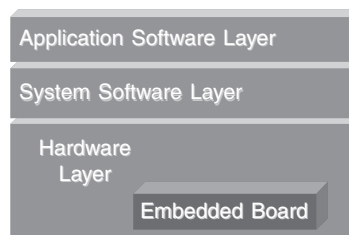

Figure 1.3: Embedded board and the Embedded Systems Model.
In embedded devices, all the electronics hardware resides on a board, also referred to as a *printed wiring board (PW)* or *printed circuit board (PCB)*. PCBs are often made of thin sheets of fiberglass. The electrical path of the circuit is printed in copper, which carries the electrical signals between the various components connected on the board. All electronic components that make up the circuit are connected to this board, either by soldering, plugging into a socket, or some other connection mechanism. All the hardware on an embedded board is located in the hardware layer of the Embedded Systems Model (see Figure 1.3).